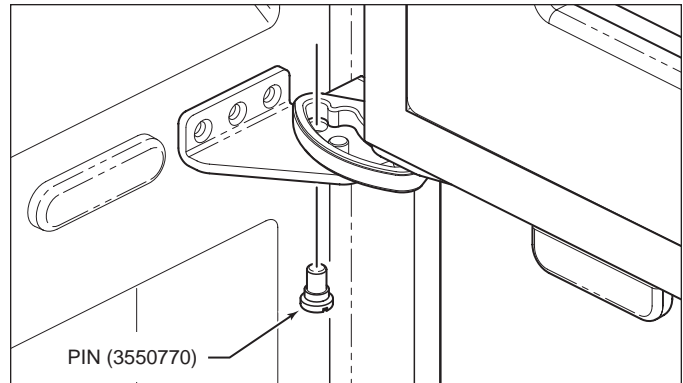

Figure 2-15. 90° Stop Pin (611G-2, 650G-2)
- Insert door stop pin up into threaded hole in lower cabinet hinge and tighten (See Figure 2-15).